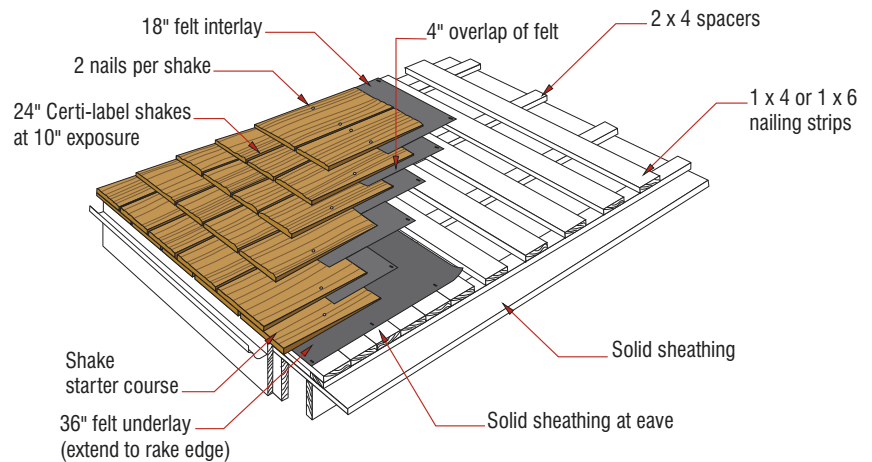

Figure 23b: Vertical Strips Over Solid Sheathing Application
2. Apply vertical strips over the sheathing in alignment with the rafters below, then place horizontal furring strips on top of the vertical boards. (See Figure 23b).